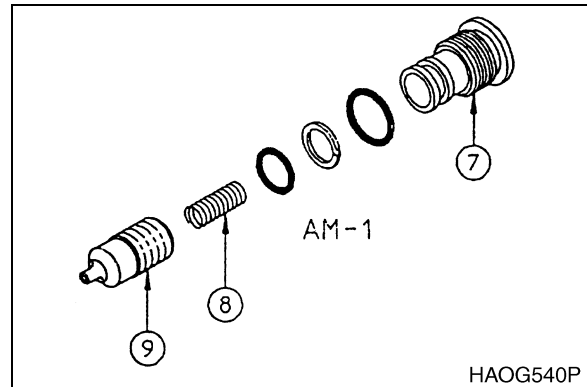

Figure 64
AM-1: Remove cap (7, Figure 64), O-rings, backup ring, spring (8) and check valve (9).